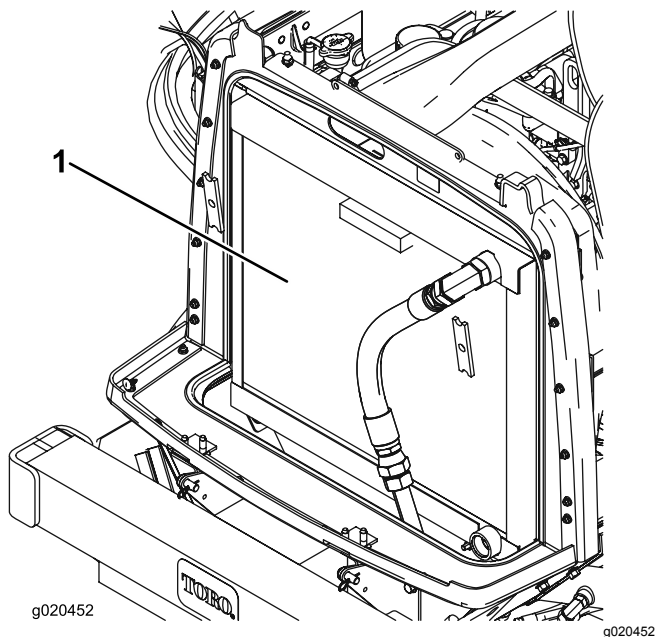

Figure 93
2. Clean both sides of the radiator/oil cooler area (Figure 93) thoroughly with compressed air. Start from the fan side and blow the debris out towards the back. Then clean from the back side and blow towards the front. Repeat procedure several times until all chaff and debris is removed.